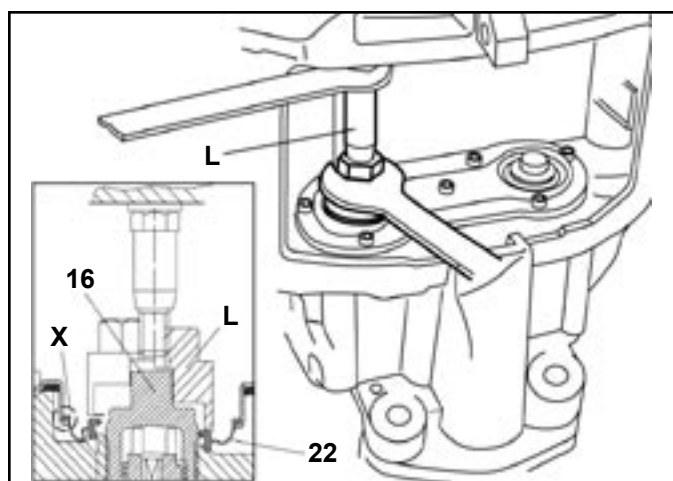

FIGURE 44 - INNER SEAL INSTALLATION
The sealing seat in the caliper for tappet and boot assemblies (13) must be clean and free of grease. See Figure 44.